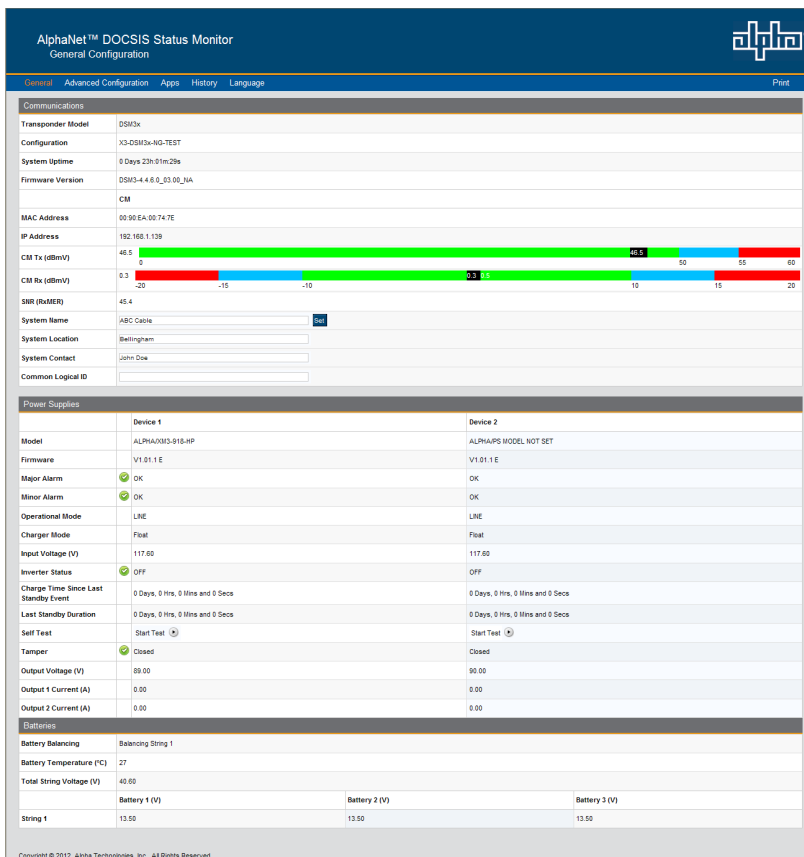

Fig. 2-37, DM3/DSM3/IDH4 Series Web Page
4. The transponder's Web server home page will appear (Fig. 2-37). **Note: For the DSM3/IDH4 Series, this may take up to 45 seconds when the transponder is initially powered up with no RF connection.**